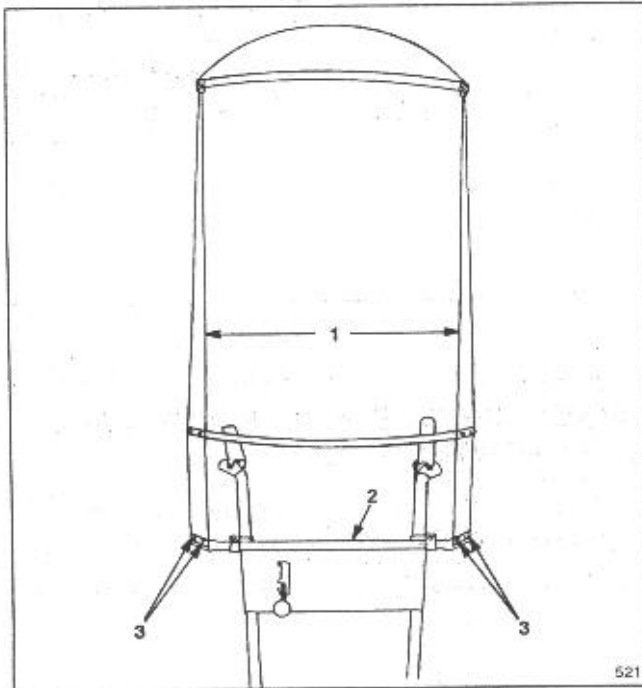

Figure 6
1. Place the assembled frame on the cross bar and secure it with four $\frac{1}{4}$ " x $\frac{5}{8}$ " bolts and $\frac{1}{4}$ " locknuts (Fig. 6).